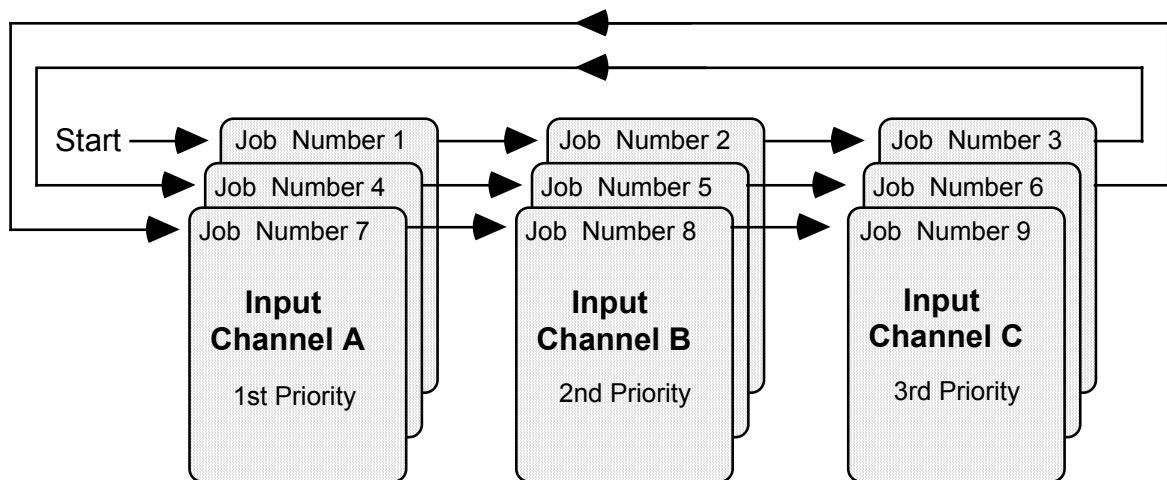

Figure 6: Round Robin Job Scheduling
- ❑ Round Robin: All channels are checked in sequence for incoming jobs. The assigned channel priorities determine the order in which the channels are checked. After a job has been processed from one channel, the input channel with the next highest priority is checked (see Figure 6). This type of scheduling ensures an evenly-balanced cyclical processing of the jobs in all of the input channels..